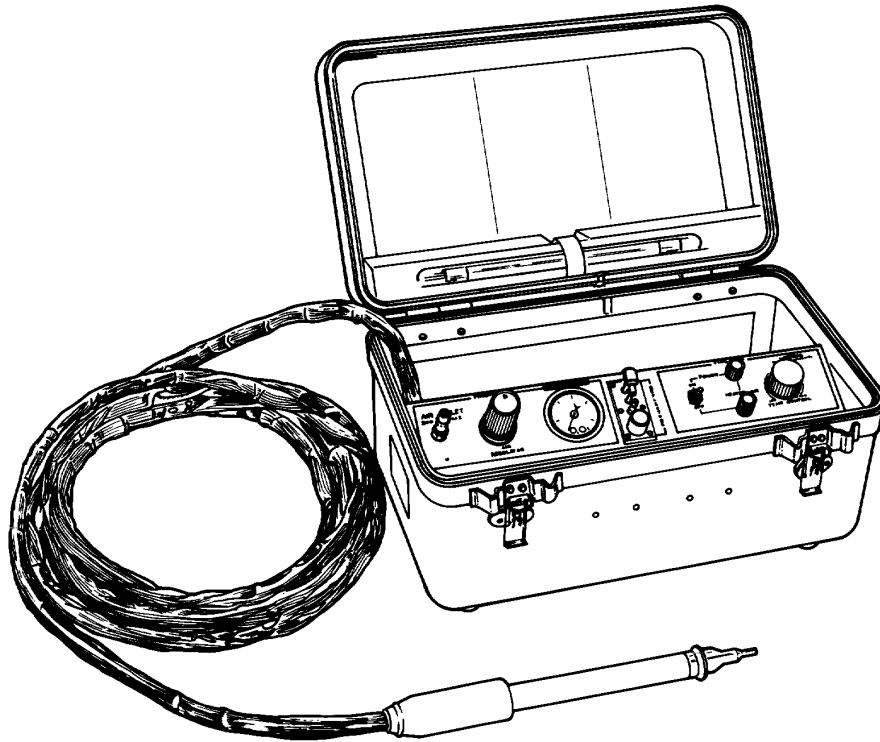

Figure 1. Compressed Air/Nitrogen Heating Tool With Case
10. Compressed air/nitrogen heating tool (Figure 1), is a portable source of heat for use with heat-shrinkable tubing, meltable solder fittings, and is qualified for use on fueled aircraft. With the exception of a source of compressed air/nitrogen, the is self-contained. Specifications are listed in Table 1. Tool contains several safety features as follows:
11. **PRE-OPERATION.** Prior to using compressed air/nitrogen heating tool (Figure 1), proceed as follows: